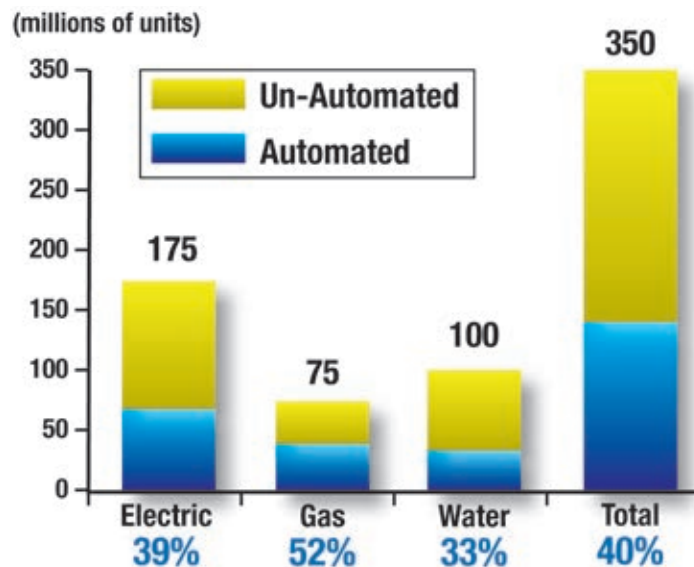

Figure 3: North American AMR Penetration (Source: IMS Meter Report 2007 Edition).
**ZigBee:** ZigBee has positioned itself as the defacto smart meter standard, claiming to be present in an overwhelming majority of deployed smart meters. Offering its Smart Energy and Home Automation Profiles which define how appliances communicate to the meter and each other (see Figure 3), ZigBee simplifies integration into the home network.
**Figure 3:** ZigBee's Smart Energy Profile provides an efficient way of connecting appliances within the home through the smart meter and allowing consolidation of energy data by utility companies.